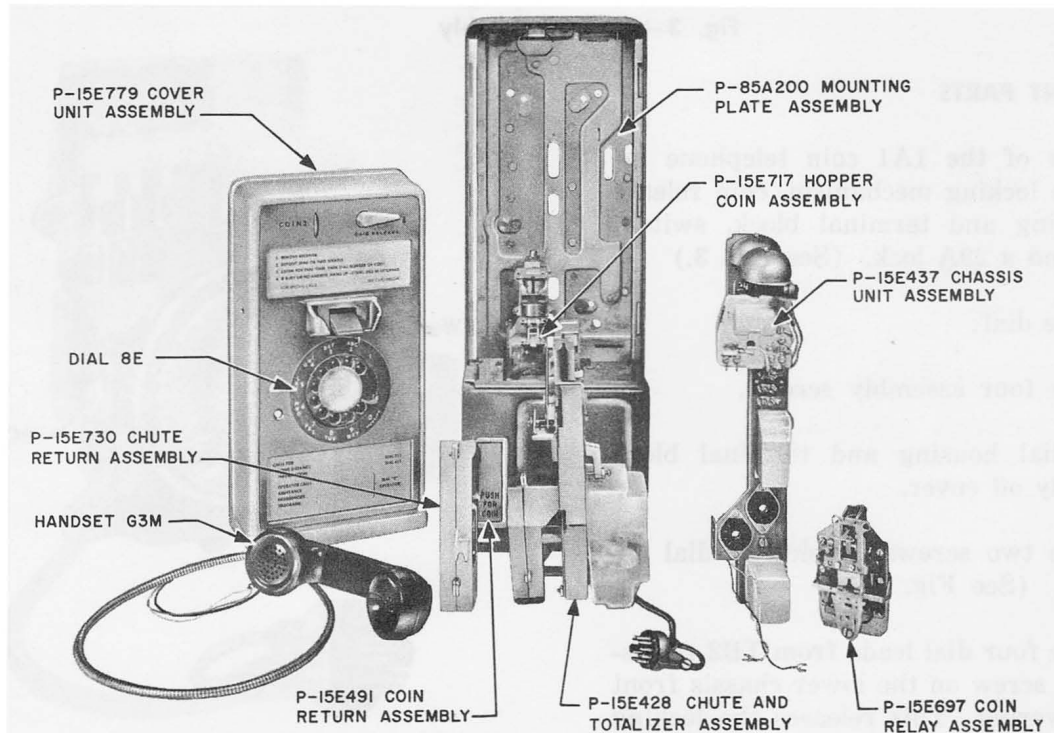

Fig. 2 — Component Parts
2.01 All parts are contained in a welded high-security housing. The handset, switch-hook dial, single-slot coin entrance, coin release lever, and two instruction cards are mounted on a removable front cover. All other components are mounted on the rear housing. (See Fig. 2.)